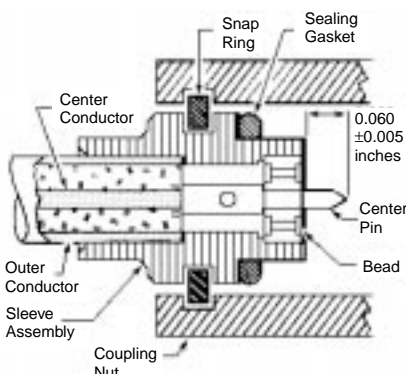

Figure 2. Male K Connector®, Assembled
- Slide the sleeve assembly onto the cable until it reaches the bottom limit of the sleeve. When properly positioned, the center pin will protrude as shown in Figure 2, and the sleeve will cover approximately 4.76 mm of the cable. Check pin extension.